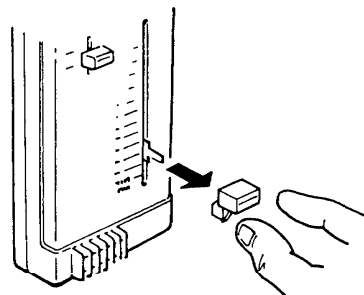

Fig. 8
- Pull off the thermostat knob. Fig. 8